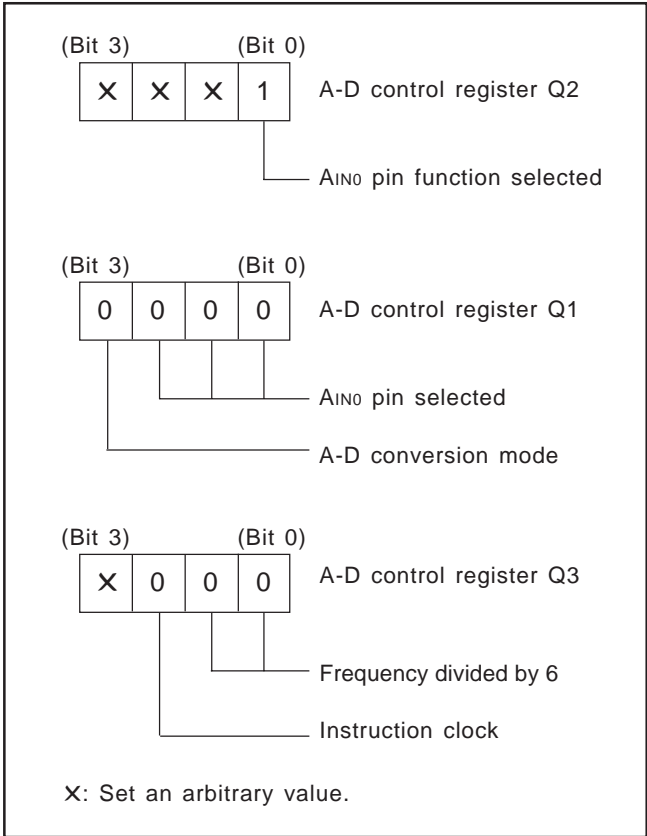

Fig. 37 Setting registers
- ① Select the AIN0 pin function with the bit 0 of the register Q2. Select the AIN0 pin function and A-D conversion mode with the register Q1. Also, the instruction clock divided by 6 is selected with the register Q3. (refer to Figure 37)
- ② Execute the ADST instruction and start A-D conversion.
- ③ Examine the state of ADF flag with the SNZAD instruction to determine the end of A-D conversion.
- ④ Transfer the low-order 2 bits of converted data to the high-order 2 bits of register A (TALA instruction).
- ⑤ Transfer the contents of register A to M(Z, X, Y) = (0, 0, 2).
- ⑥ Transfer the high-order 8 bits of converted data to registers A and B (TABAD instruction).
- ⑦ Transfer the contents of register A to M(Z, X, Y) = (0, 0, 1).
- ⑧ Transfer the contents of register B to register A, and then, store into M(Z, X, Y) = (0, 0, 0).